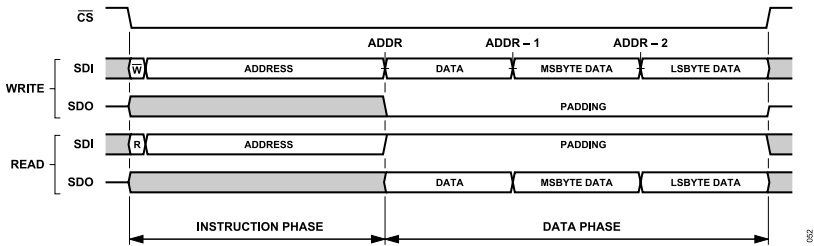
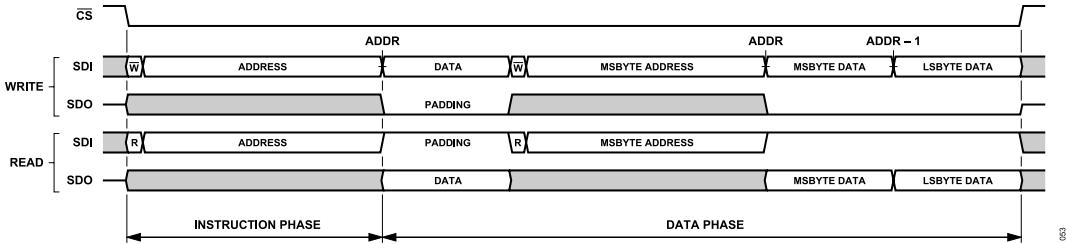
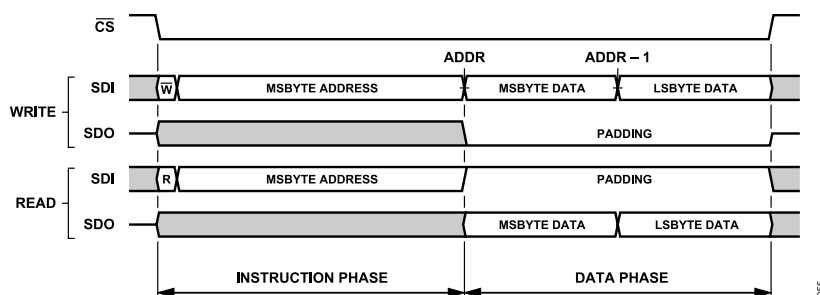
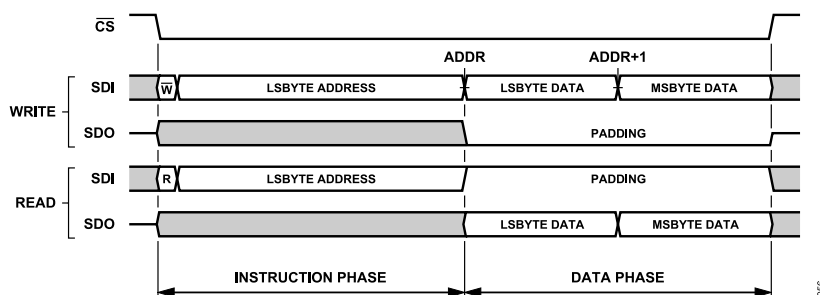

Figure 61. Interface Access Example, Default Interface Configuration, Streaming Mode (ADDR_ASCENSION = 0)
Figure 62. Interface Access Example, Single Instruction Mode (SINGLE_INST = 1), All Other Interface Options Default
Figure 64. Single Instruction Format, ADDR_ASCENSION = 0 (Descend), STRICT_REGISTER_ACCESS = 1 (Enabled)
Figure 65. Single Instruction Format, ADDR_ASCENSION = 1 (Increment), STRICT_REGISTER_ACCESS = 1 (Enabled)
Figure 61 illustrates the generic SPI frame formatting for a serial transaction using the default interface configuration. In this exam-
In single instruction mode (SINGLE_INST = 1), the memory access controller requires an instruction phase to transmit for each register accessed in a given SPI frame as illustrated in Figure 62. This mode is useful when access to nonadjacent sections of the register space is required in a given SPI frame. Note that, the same access flexibility can be achieved in stream mode by initiating a new SPI frame for each unique register access.
The address ascension selection (ADDR_ASCENSION) bit, as described in previous sections, determines how the internal interface address pointer is updated for each byte of data transmitted to the AD4086 in streaming mode (SINGLE_INST = 0). If using single instruction mode (SINGLE_INST = 1), each register is directly addressed through its own instruction phase as illustrated in Figure 62, and thus, the address pointer is not updated. Regardless of the setting for SINGLE_INST, the ADDR_ASCENSION bit directly impacts the formatting of the SPI frame in terms of selection of the instruction phase starting address and byte order of the data phase payload. This impact is described in greater detail in the Strict Access Selection and Multibyte Registers section as much of the data formatting is dependent on this interface configuration selection. The ADDR_ASCENSION selection bit is located in the Interface Configuration A register (see the Interface Configuration A Register section, Address 0x00).
As indicated in Figure 64, the address counter, by default, automatically decrements (ADDR_ASCENSION = 0) such that the most significant byte of the multibyte register is accessed first, followed
As an extension of this concept, when `STRICT_REGISTER_ACCESS = 1`, any SPI frame that accesses a multibyte register as the first entity in the data transfer must correctly set the starting address in the instruction word to correspond to the `ADDR_ASCENSION` selection. In the case that the address counter automatically decrements (`ADDR_ASCENSION = 0`), the starting address is assigned to the register address for the least significant byte of that multibyte register, and conversely, if configured to increment automatically, the starting address must be set to the register address for the most significant byte. As a result of the change to `ADDR_ASCENSION` from automatic address decrement (0) to automatic increment (1), Figure 61 and Figure 62 will change as illustrated in Figure 64 and Figure 65 to accommodate the changes in data phase byte order and instruction phase multibyte register start address.